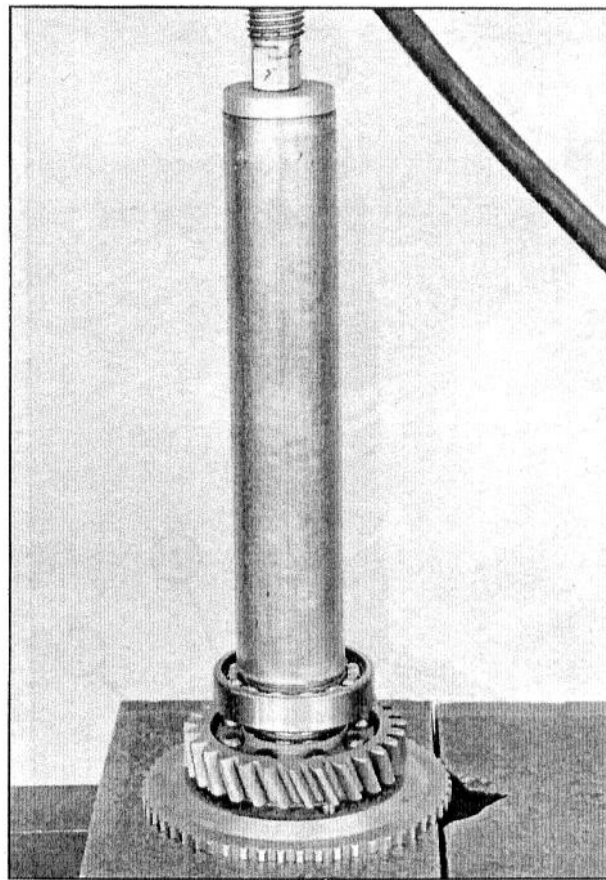

Fig. 46 — Installing Input Shaft Bearing
4. Mount the input shaft in a press and press the input shaft bearing on until it bottoms against the shoulder. See Fig. 46.